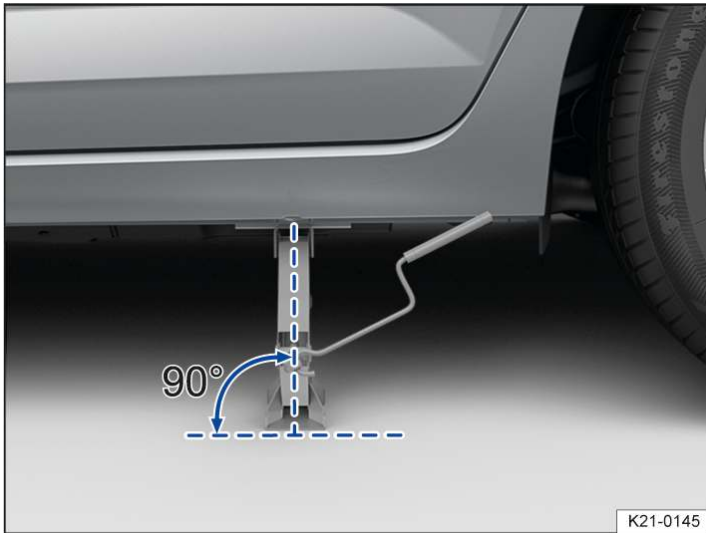
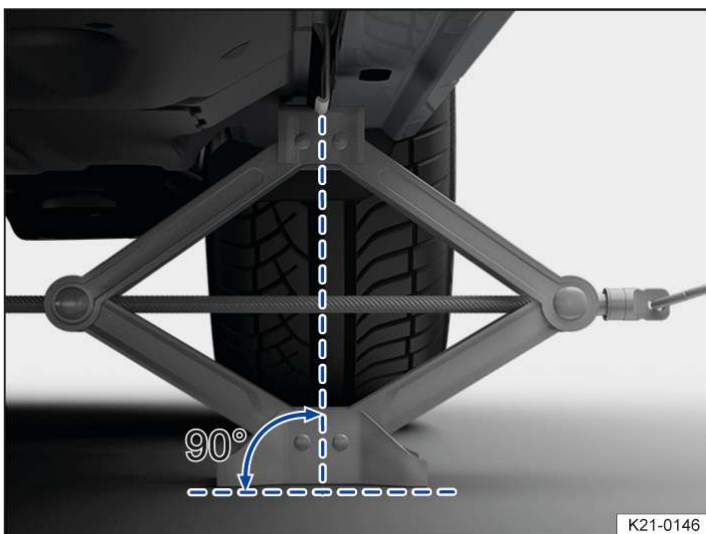

Fig. 3 Correct alignment of the jack.
Fig. 4 At the rear left-hand side of the vehicle: jack applied.
4. Make sure that the entire surface of the foot of the jack is resting securely on the ground and that the foot of the jack is positioned vertically directly beneath the jacking point → Fig. 3 and → Fig. 4.
5. Position the jack and simultaneously continue to crank the claw up until it is in position around the jacking point underneath the vehicle → Fig. 4.
- Fit the jack only at the described jacking points. The jack claw must grip the vertical rib under the side member securely → Fig. 4.